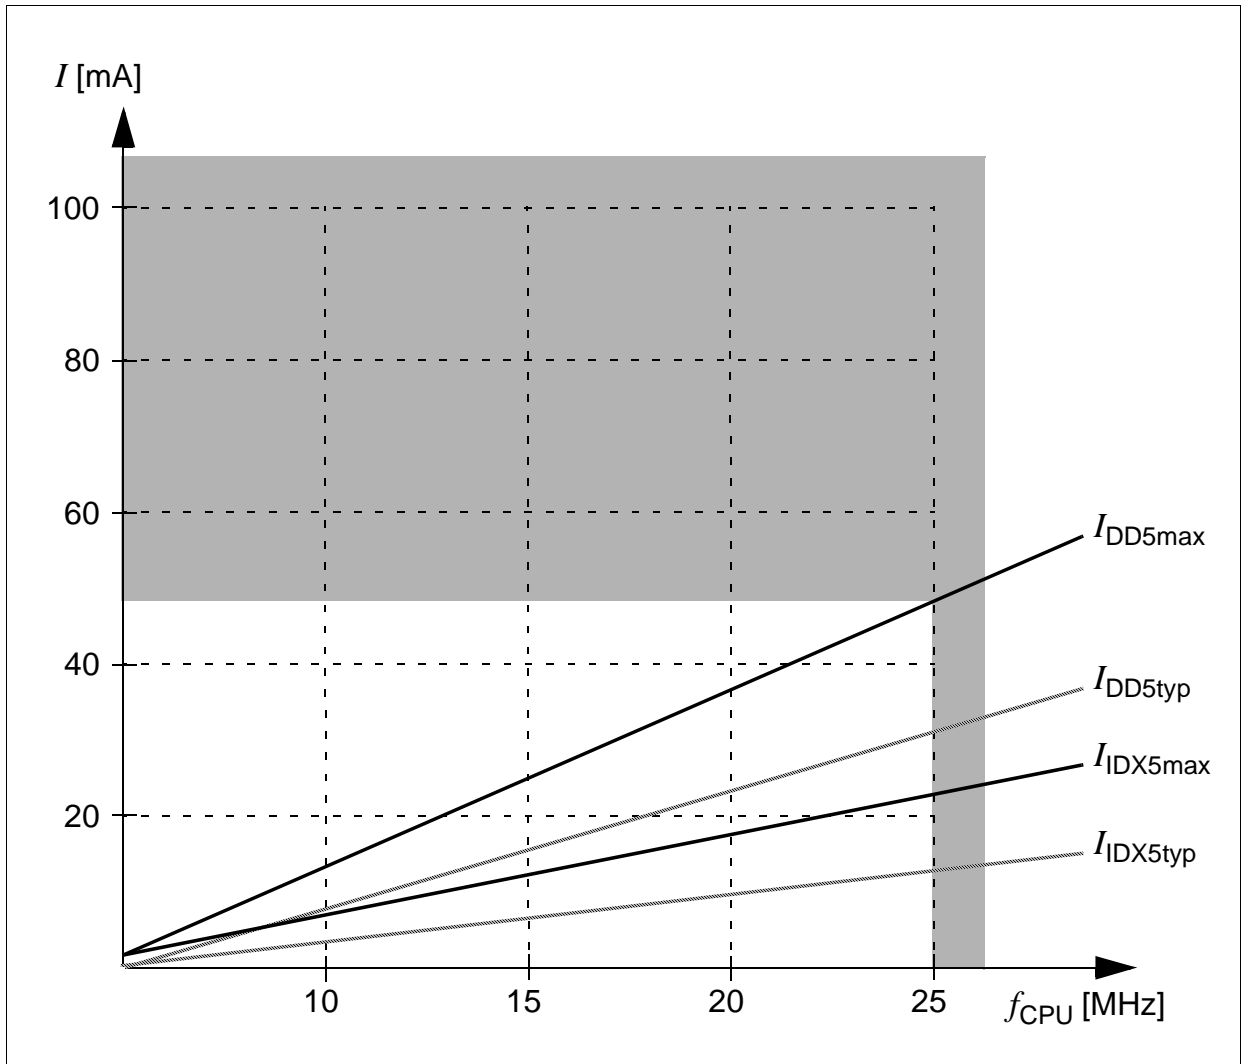

Figure 9 Supply/Idle Current as a Function of Operating Frequency
1) The supply current is a function of the operating frequency. This dependency is illustrated in Figure 9. These parameters are tested at  $V_{DDmax}$  and maximum CPU clock with all outputs disconnected and all inputs at  $V_{IL}$  or  $V_{IH}$ .